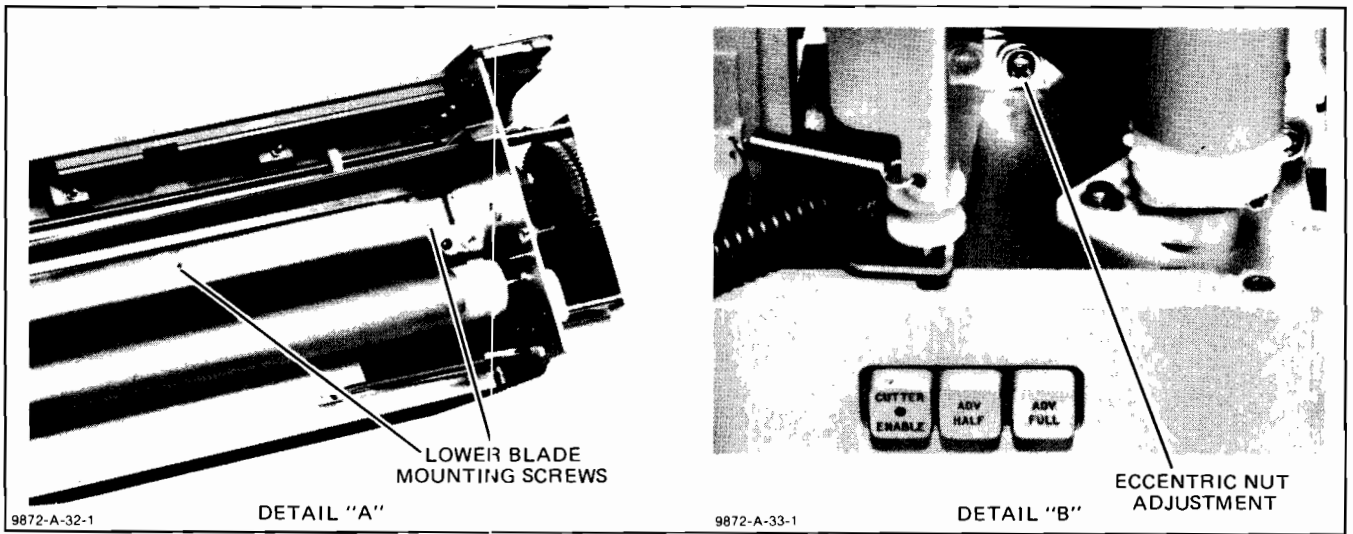

Figure A3-9. Lower Cutter Blade Adjustment
- c. Set the plotter LINE switch to OFF (O).
- e. Loosen the rear and center lower blade mounting screws. See Figure A3-9.